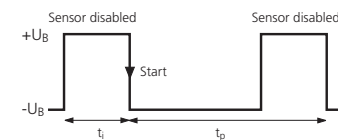

Fig. 3: External synchronization signal
- Apply a square-wave signal to the sync-input with pulse width t_i and repetition rate t_p (s. Fig. 3 and technical data).